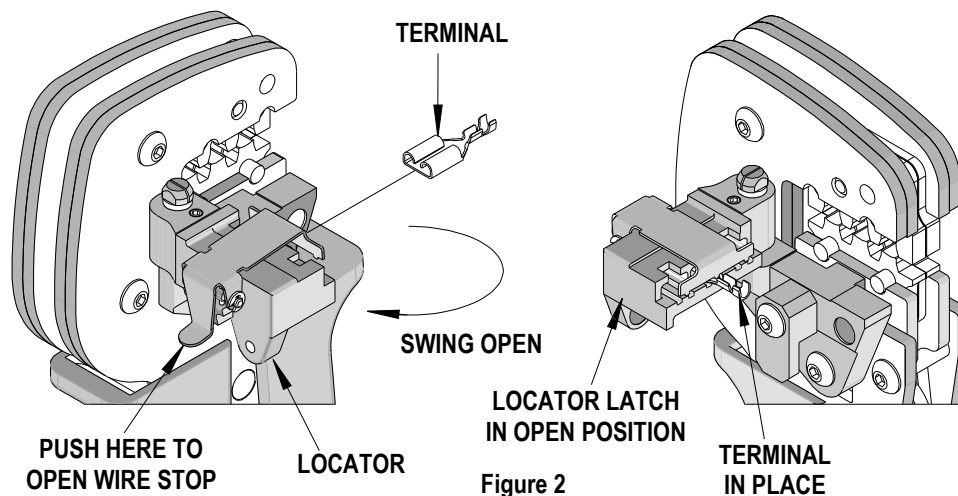
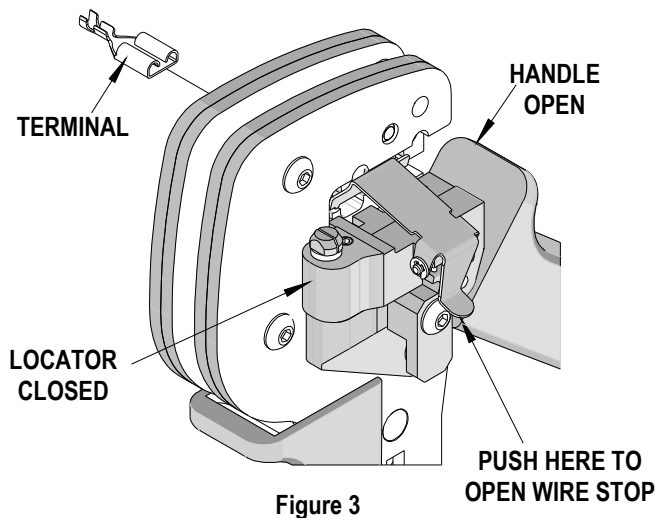

Figure 2
Figure 3
3. Swing the terminal locator away from the crimp tool shown in Figure 2. Some terminals with large insulation grips may interfere with the crimp tooling when swinging the locator into position. The terminal must then be loaded into the locator in the closed/crimp position. See Figure 3.